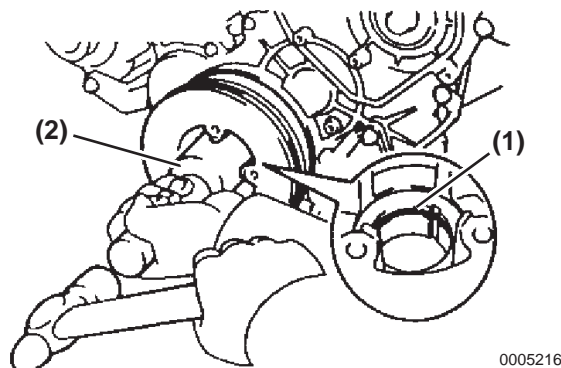

Figure 5-217
17. Install a new O-ring (**Figure 5-217, (1)**) in the crankshaft pulley groove.
19. Tap in the crankshaft pulley to install using a suitable tool (**Figure 5-217, (2)**).